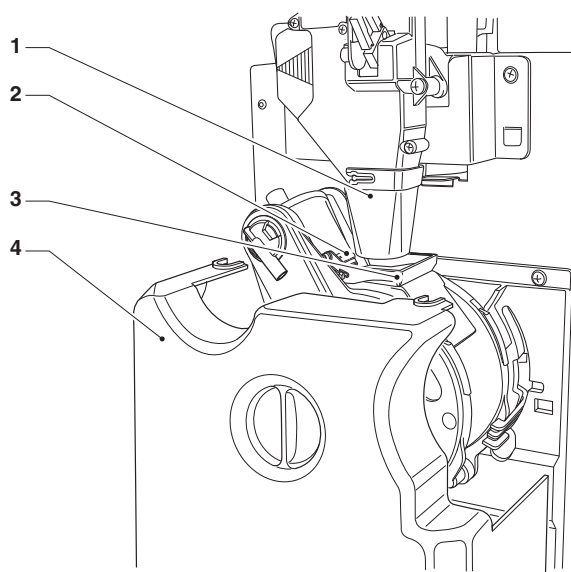

Fig. 13
It is good practice to periodically remove the cover of the infuser unit and the coffee funnel. Slide the funnel towards the right in order to unfasten it from the doser (see Fig. 13).
**It is essential to reinstall the cover before restarting the machine (see Fig. 13).**